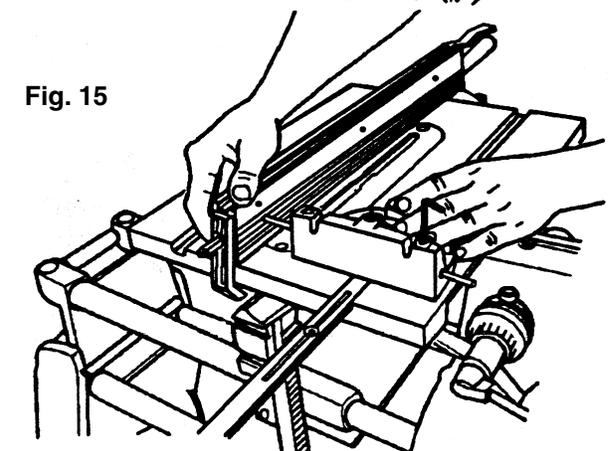

Fig. 15
- b. Adjust the fence by pulling or pushing it closer to, or farther from, the 5/32" Allen wrench, as shown in Fig. 15. Lock the rear clamp lever. Again, slide the miter gauge from front to back, as described in Step 12. The fence should be parallel with the miter gauge slot. If not, repeat Steps 12 and 13.